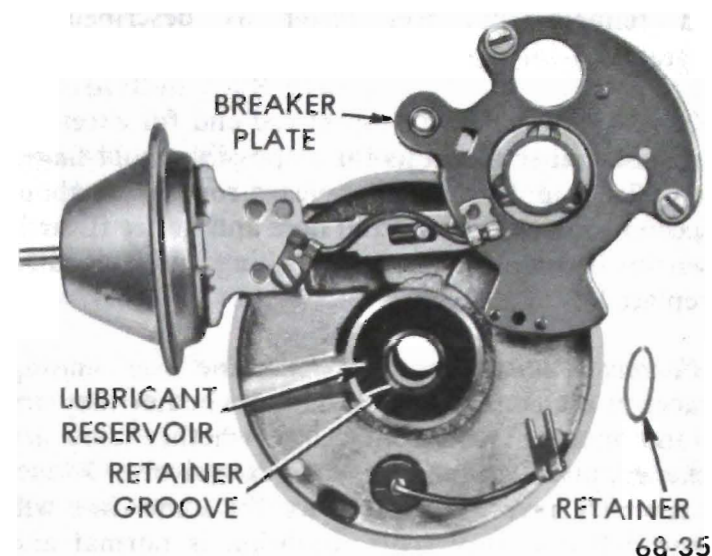

Figure 68-31 Installing Breaker Plate and Retainer
2. Install felt washer over upper bushing and apply a few drops of light oil. Then place breaker plate over upper bushing and vacuum advance link. Install retainer on upper bushing. See Figure 68-31.